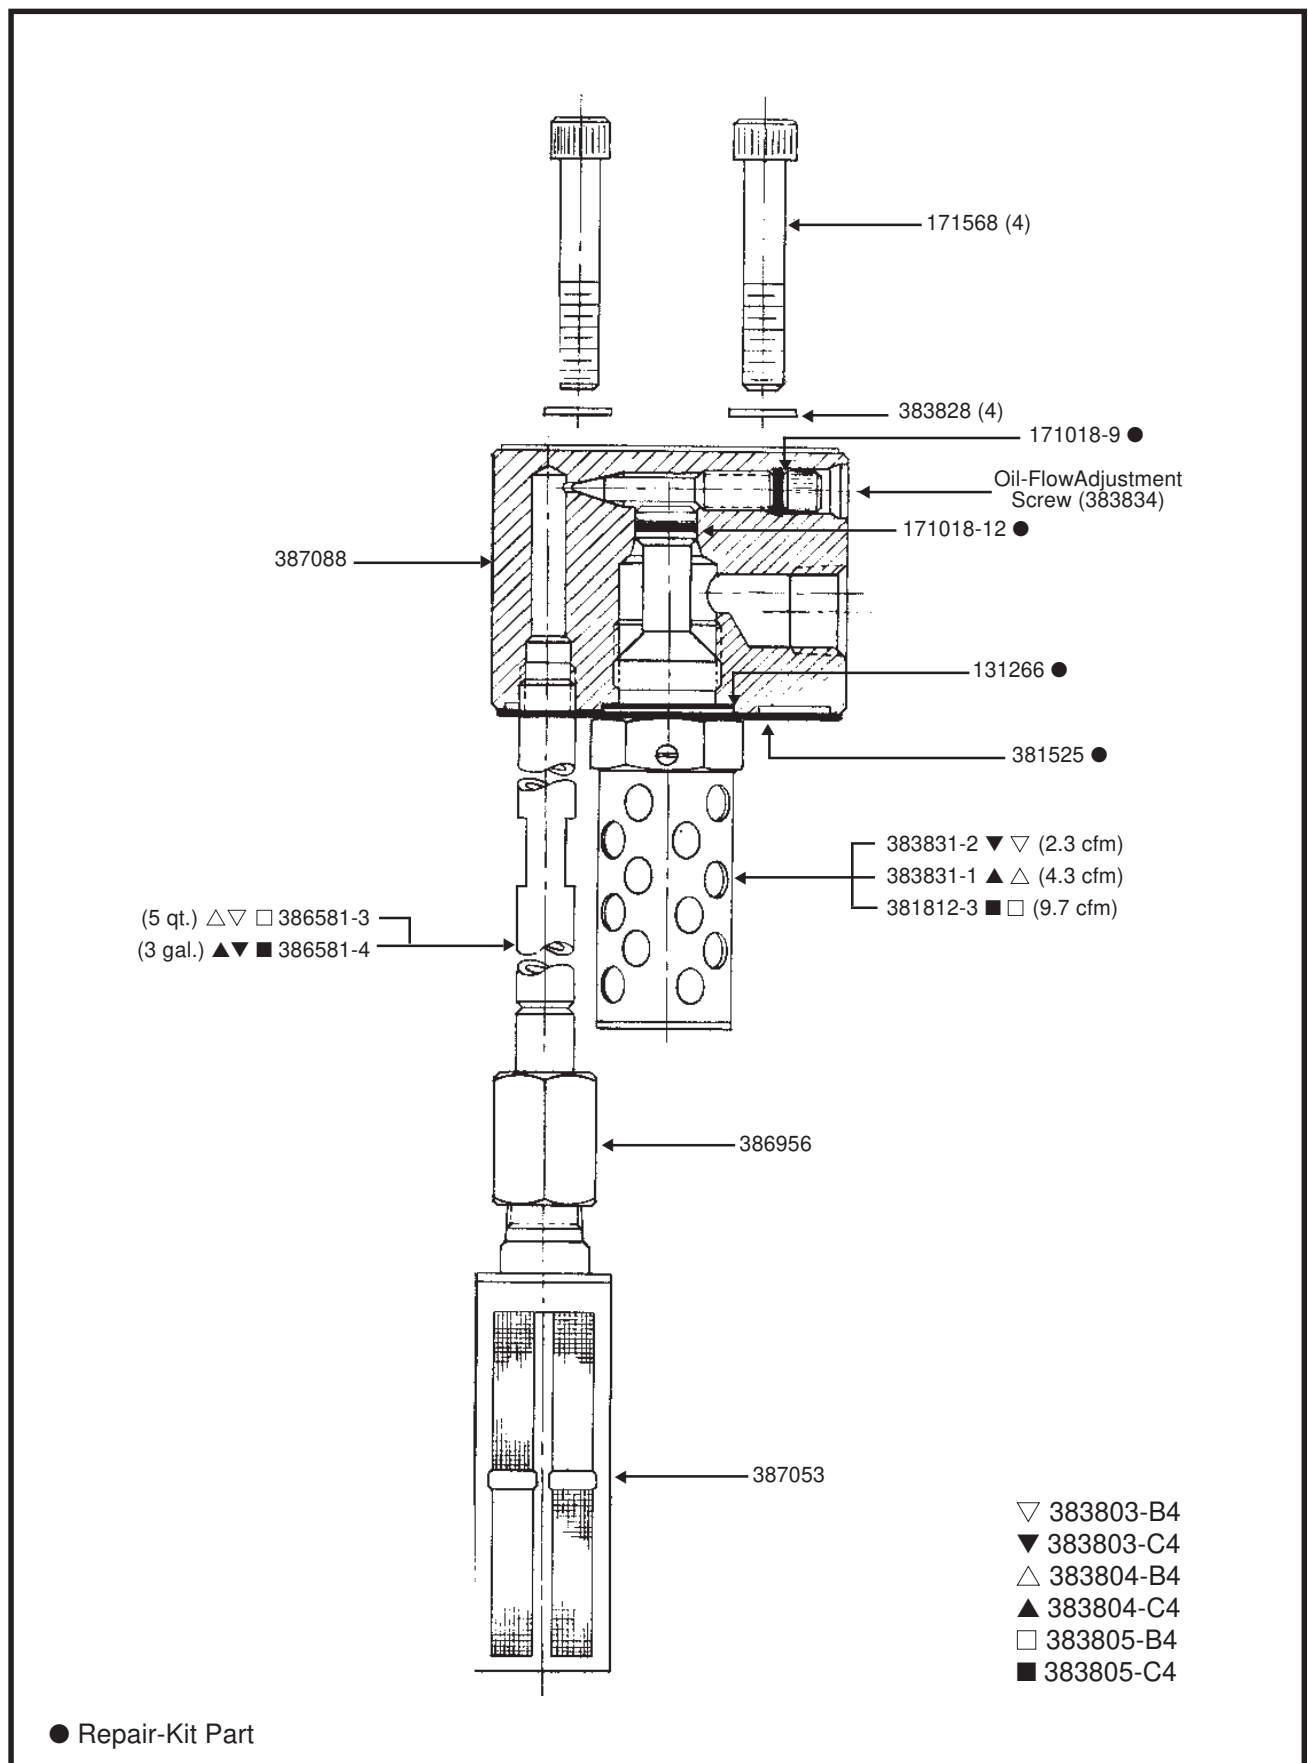

Figure 5: Oil-Mist Generating Assembly
2. Place gasket 381525 (Figure 5) over opening mentioned in step 1.
4. Secure mist head to reservoir using four gaskets 383828 and four screws 171568 (Figure 5).
(Figure 5)
2. Remove four screws 171568 and four gaskets 383828 to disconnect mist head assembly from reservoir (Figure 5).
4. Unscrew tube 386581-3 or 386581-4 from mist head 387088 (Figure 5).
6. Unscrew screen and nozzle assembly 383831-1, 383831-2 or 381812-3 from head 387088 (Figure 5).
PARTS LIST – Oil-Mist Head Assembly (383803-B4/C4) (Figure 5)
PARTS LIST – Oil-Mist Head Assembly (383804-B4/C4) (Figure 5)
PARTS LIST – Oil-Mist Head Assembly (383805-B4/C4) (Figure 5)